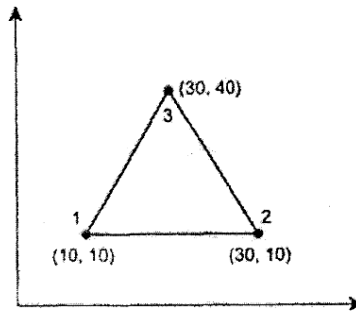

Fig 14(a)
- (b) Derive the expression of shape function for heat transfer in 2D element. (13)
14. (a) The nodal co-ordinates for an axisymmetric triangular element are given figure 14 (a). Evaluate strain\_Displacement matrix for that element. (13)